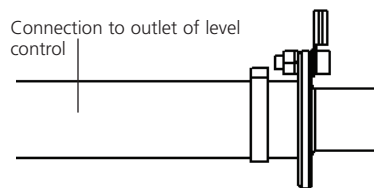

Figure 3b: Hose assembly 1
- 10b Refer to fig. 3b. Connect the 16mm tubing to the earthed spigot of hose assembly 1 and secure with a tie-trap.